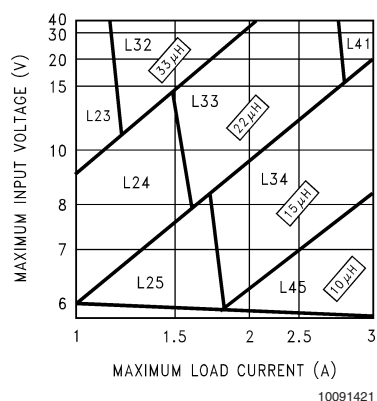
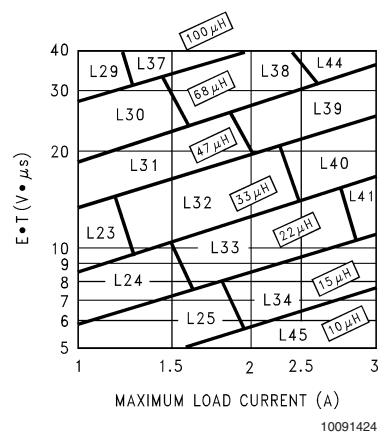

FIGURE 3. LM2676-3.3
FIGURE 6. LM2676-ADJ
Step 3: Determine the inductor required by using one of the four nomographs, *Figure 3* through *Figure 6*. Table 1 provides a specific manufacturer and part number for the inductor.
Step 5: Determine an input capacitor from Table 4 for fixed output voltage applications. Use Table 2 to find the specific capacitor type. For adjustable output circuits select a capacitor from Table 2 with a sufficient working voltage (WV) rating greater than $V_{in\ max}$, and an rms current rating greater than one-half the maximum load current (2 or more capacitors in parallel may be required).
Step 3: Use the nomograph for the 3.3V device, *Figure 3*. The intersection of the 16V horizontal line ($V_{in\ max}$) and the 2.5A vertical line ($I_{load\ max}$) indicates that L33, a $22\mu H$ inductor, is required.
Step 3: To use the nomograph for the adjustable device, Figure 6, requires a calculation of the inductor Volt•microsecond constant (E•T expressed in V•μs) from the following formula:
Using Figure 6, the intersection of 27V•μs horizontally and the 2A vertical line (I_{load max}) indicates that L38, a 68μH inductor, should be used.
Important Note: When using the adjustable device in low voltage applications (less than 3V output), if the nomograph, Figure 6, selects an inductance of 22μH or less, Table 6 does not provide an output capacitor solution. With these conditions the number of output capacitors required for stable operation becomes impractical. It is recommended to use either a 33μH or 47μH inductor and the output capacitors from Table 6.